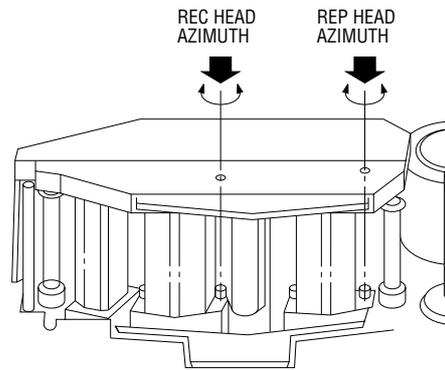

Figure 5-17
Refer to **Figure 5-17** for the location and reproduce azimuth adjustment screws.
5. Adjust the reproduce head azimuth adjustment screw (**Figure 5-17**) until the two signals displayed on the oscilloscope are in phase.